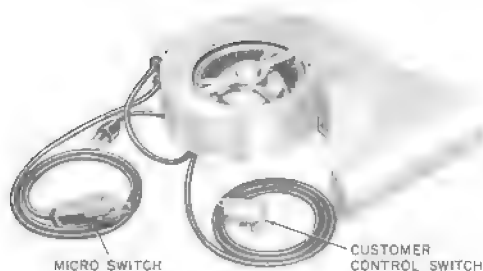

Fig. 9—KS-16797, List 9 (MD) Blower Assembly
- 2.18 Booth ventilation is provided by use of a KS-16797, List 9 (MD) blower assembly (Fig. 9). The assembly includes an interlock switch mounted in the door track to control the operation